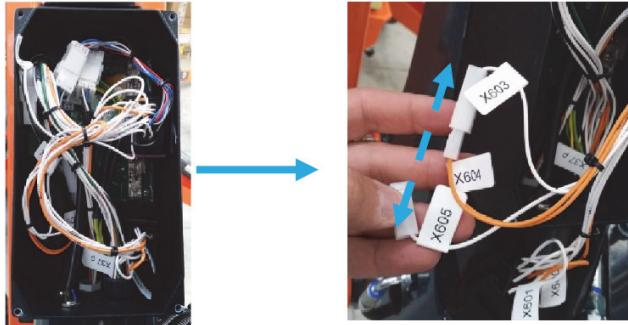

Figure 4-59.
- 11.** Open load cell board (ECM3) box, locate connectors X604 and X603, then disconnect them. See Figure 4-59.